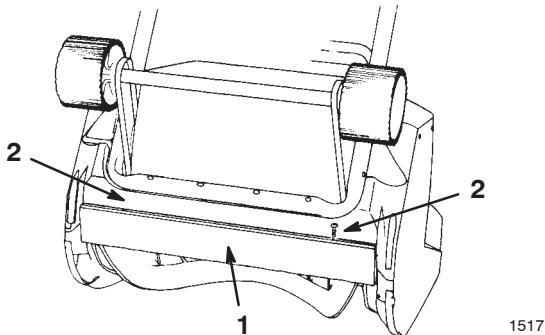

Figure 12
The scraper is located at the bottom of the rotor housing as shown in Figure 12.
1. Remove the 2 screws that secure the scraper to the snowblower (Fig. 12).